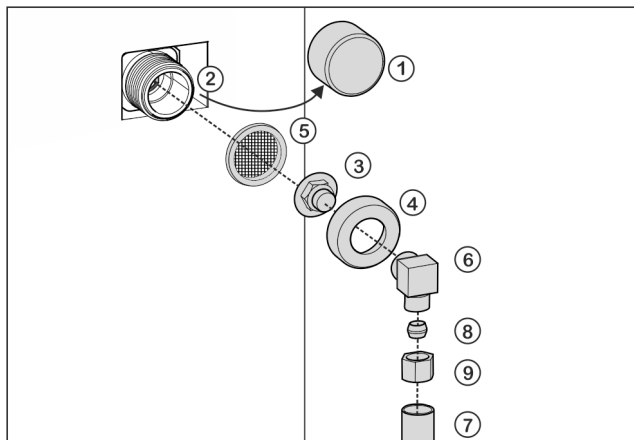

Fig. 25
- ▶ Remove cap Fig. 25 (1) from solenoid valve Fig. 25 (2).
- ▶ Insert coupler Fig. 25 (3) into union nut Fig. 25 (4).
Improper installation of water filter Fig. 25 (5)!
- ▶ Insert water filter Fig. 25 (5) with the recess pointing down towards coupler Fig. 25 (3).
- ▶ Attach union nut Fig. 25 (4) to solenoid valve Fig. 25 (2) and tighten.
- ▶ Screw on angle piece Fig. 25 (6).
- ▶ Connect water pipe Fig. 25 (7) (e.g. copper) to angle piece Fig. 25 (6) using clamp ring Fig. 25 (8) and nut Fig. 25 (9).
- ▶ Attach water pipe Fig. 25 (7) to the housing if possible, using the clip bracket.
- ▶ Put angle piece Fig. 25 (6) to one side.
- ▶ Connect water pipe Fig. 25 (7) (e.g. copper) to coupler Fig. 25 (3) using clamp ring Fig. 25 (8) and nut Fig. 25 (9).